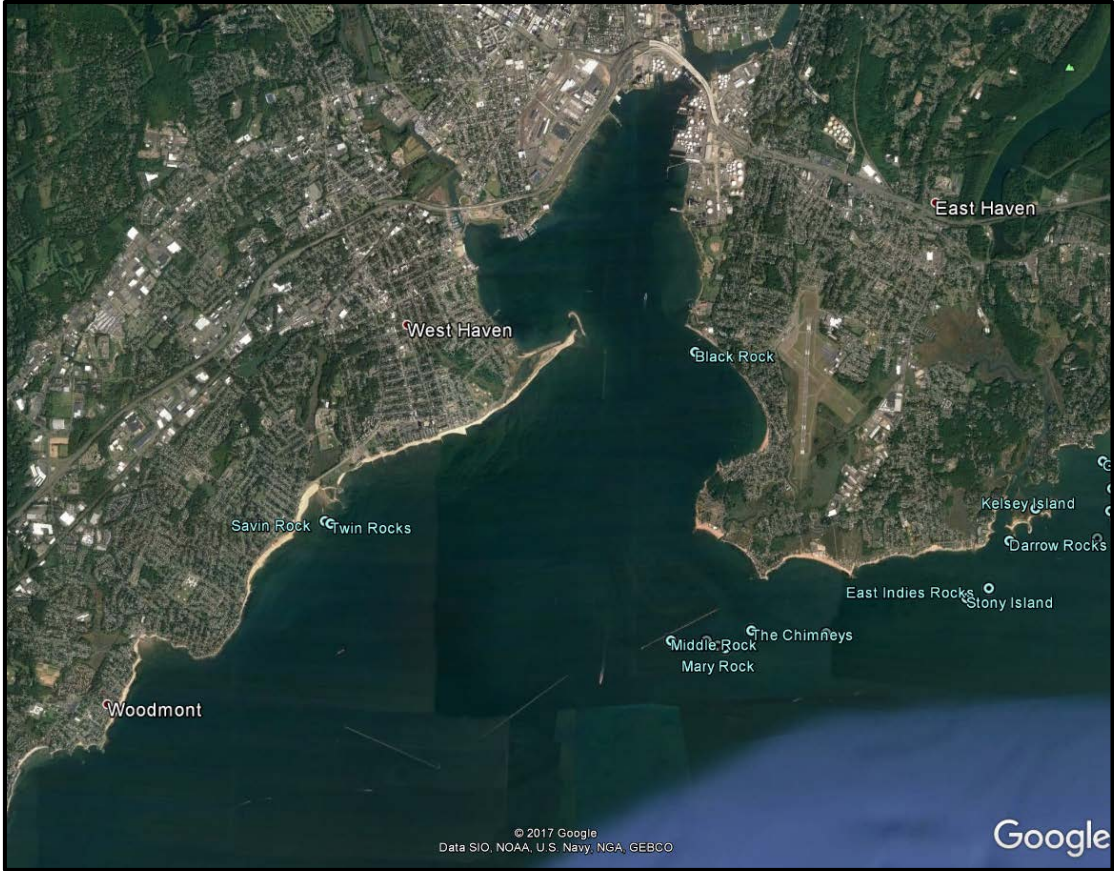
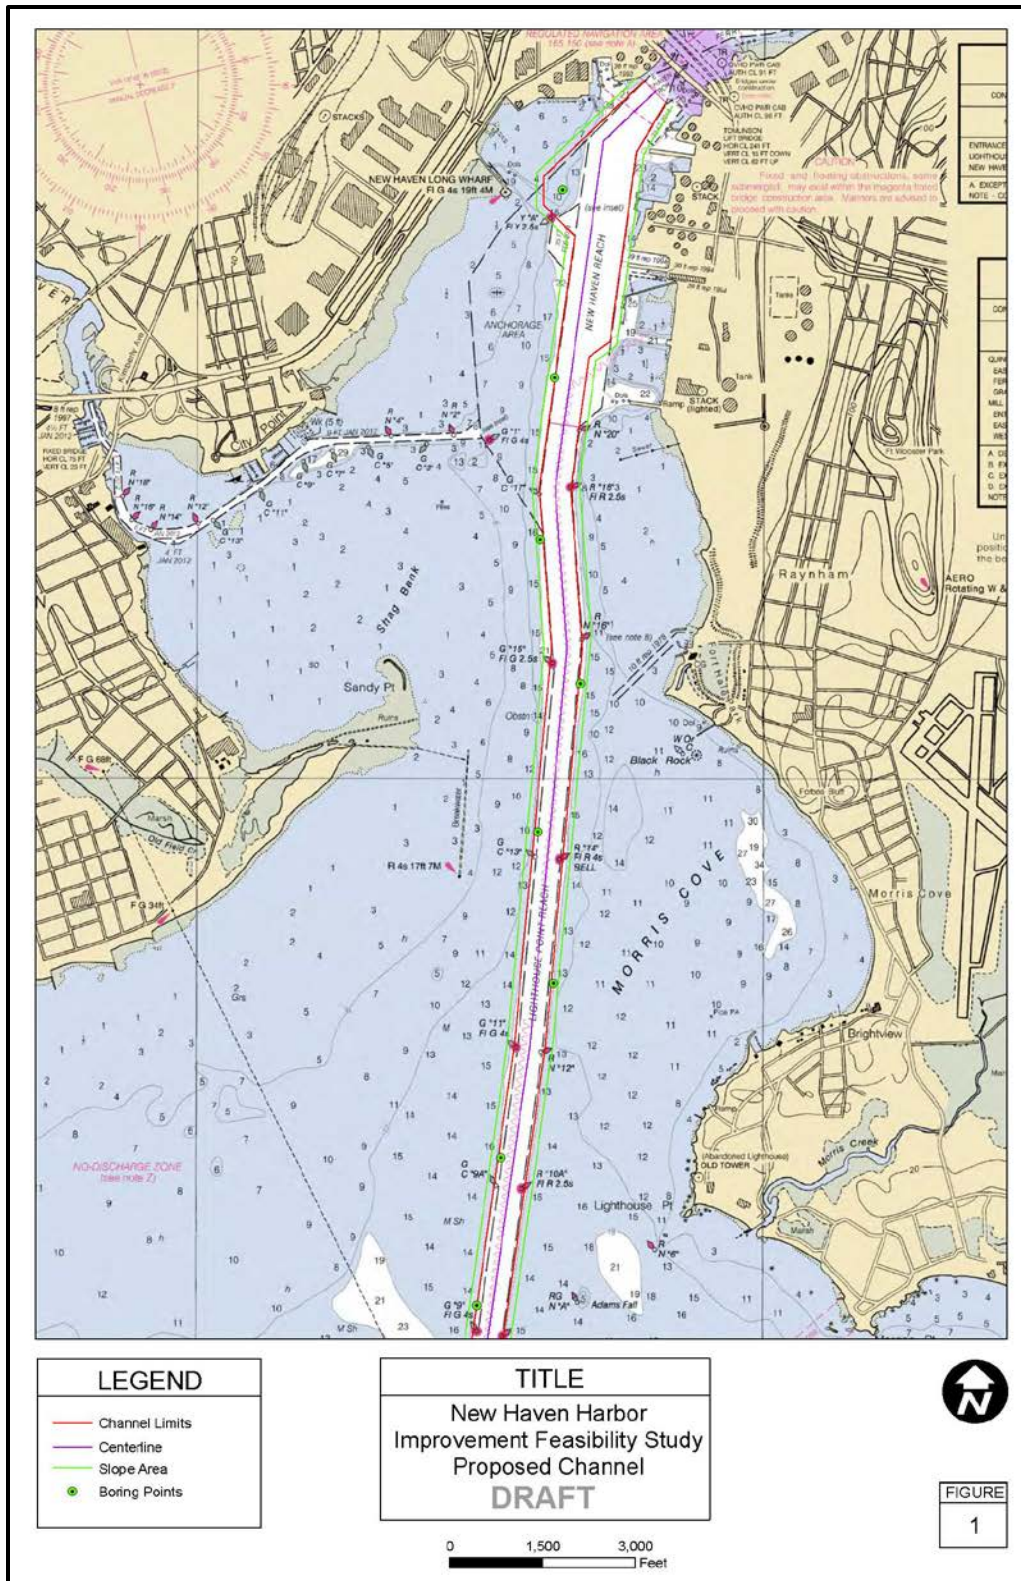
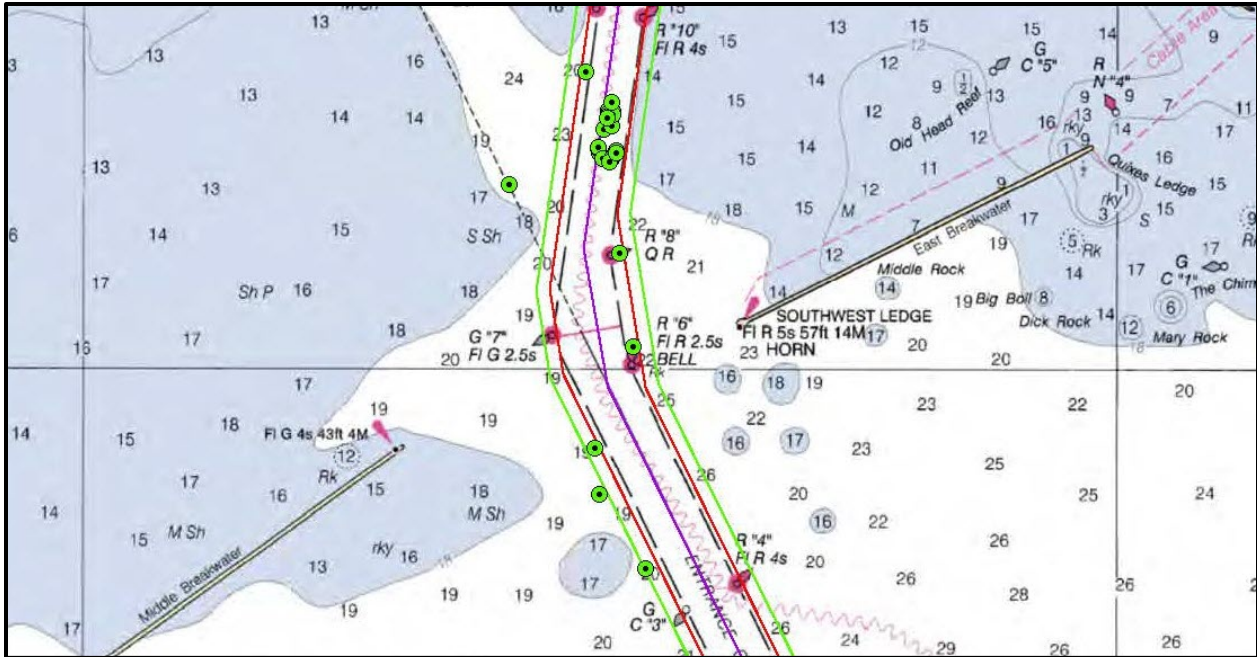
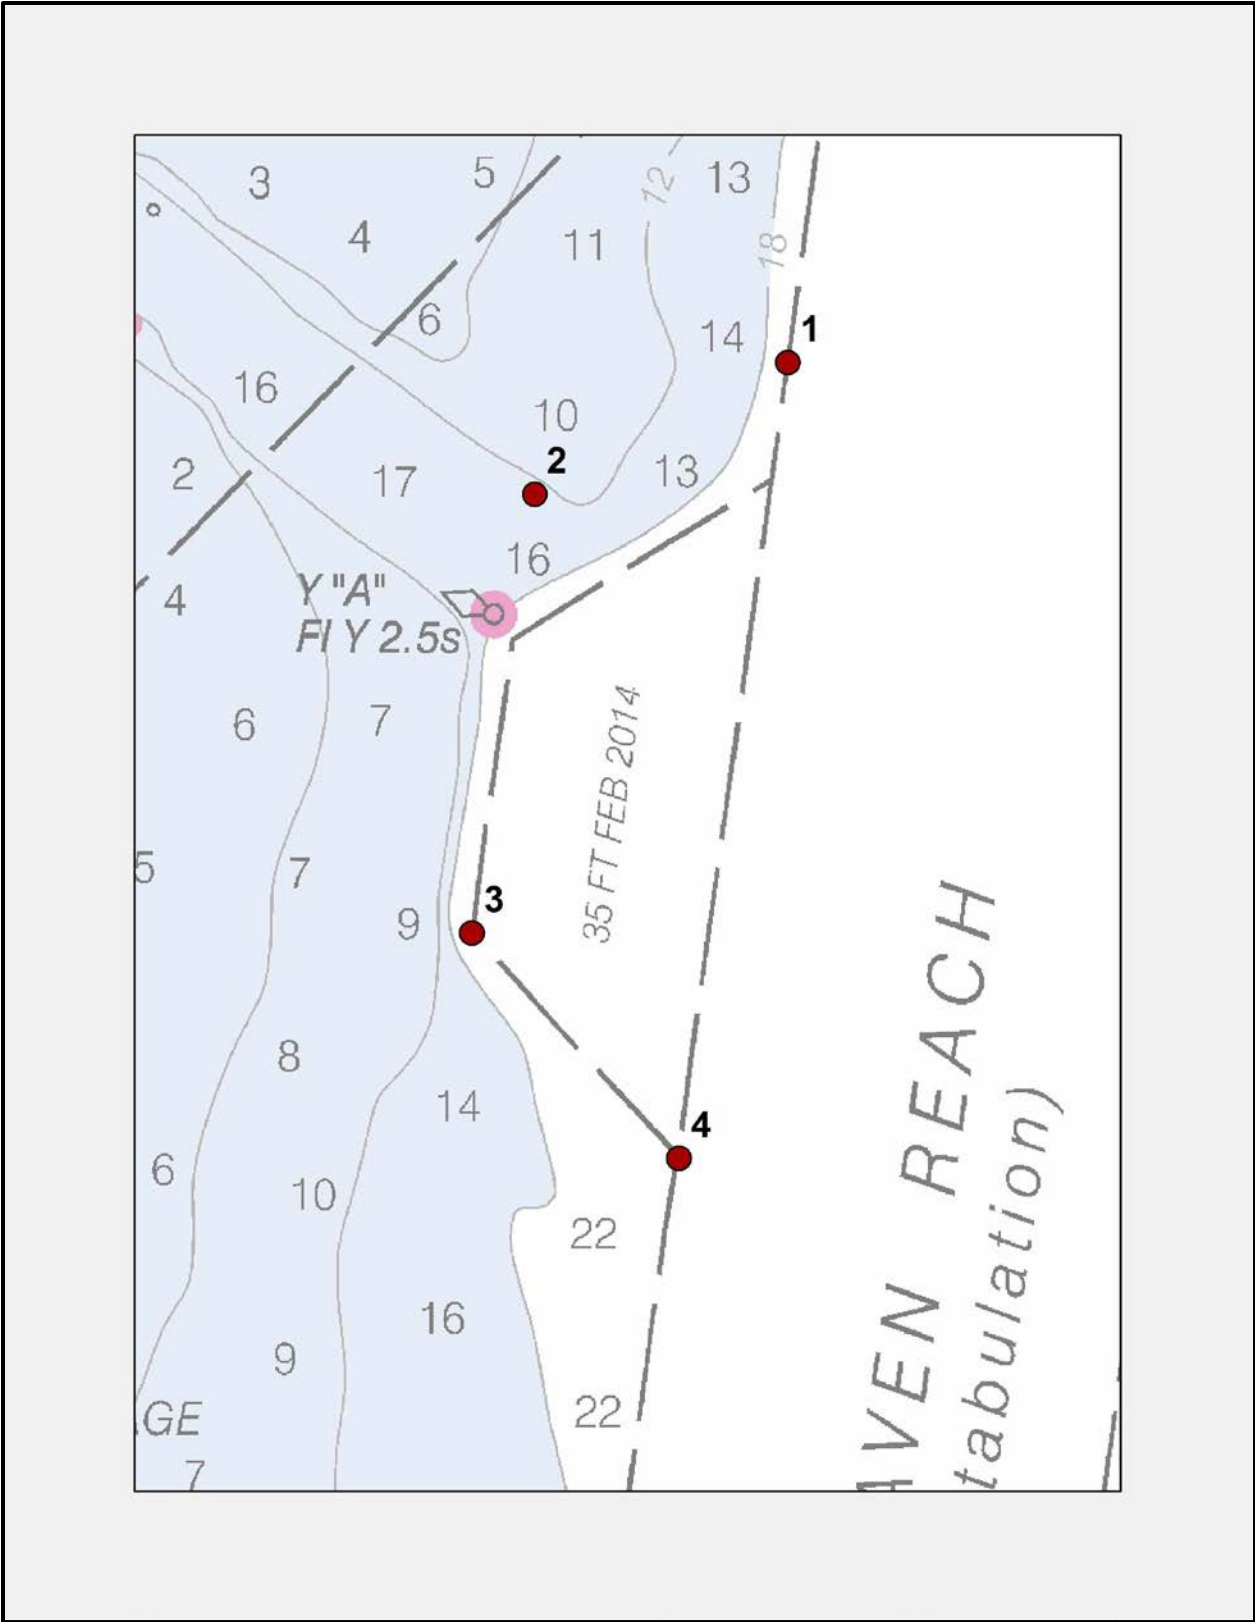

Figure 1. Location Map
Figure 2. Draft Plan Prior to FLSSP Ship Simulations, Harbor Channel and Turning Basin
Figure 3. Draft Plan prior to FLSSP Ship Simulations, Entrance Channel and Bend
Figure 5. Proposed enlargement of the turning basin
New Haven Harbor (NHH) is a Federal Navigation Project on the northern side of Long Island Sound (LIS) (Figure 1). It is the largest deep draft port in Connecticut and the highest volume port on LIS. The NHH has 6 terminals and 12 berths with over 6,000 feet of quay length. Deep draft vessel traffic includes tankers and bulker carriers. The authorized depth for the channel and the existing turning basin is -35 feet at mean lower low water (MLLW). The project includes three offshore stone breakwaters at the entrance to the harbor. The entrance channel is 500 feet wide and the channel in the interior of New Haven Harbor is 400-feet-wide widening to 800 feet along the terminal to provide a maneuvering area. The draft plan prior to the FLSSP ship simulations was channel width of 600 feet in the entrance channel in LIS, and 700 feet at the breakwater bend tapering down to the 500 foot width in the inner harbor and includes the widening to 800 feet along the terminals (Figures 1 and 2). The proposed bend widening prior to ship simulations is illustrated in Figure 3. The proposed depths are between 37 feet and 42 feet MLLW.
The draft plan channel widths, bend widener, and turning basin dimensions were developed by CENAE personnel in coordination with the Connecticut Pilots. The draft plan channel width is 600 feet in the entrance channel in LIS, and 700 feet at the breakwater tapering down to the 500 foot width in the harbor (Figures 2 and 3). The draft plan bend widening is illustrated in Figure 3. The channels would be widened equally to either side of the center line of the channels. The proposed depths tested ranged between 37 feet and 42 feet MLLW.
In the initial plan the turning basin in the upper section of the harbor had a proposed new location north of the existing turning basin (see Figure 1 above). After some preliminary simulation runs and discussions with the pilots, it was determined that with a small enlargement the present-day existing turning basin location better suited the ship maneuvering than relocating the turning basin as originally proposed. The enlargement of the existing turning basin would involve moving the northern angled line as shown by points 1 and 2 in Figure 5.
g. The Turning Basin location indicated as the most practicable by the FLSSP is the (Existing Basin location or the Head of Harbor location) with the modification shown in Figure 5.
- d. Turning Basin Location – Existing Basin with modification (see Figure 5)